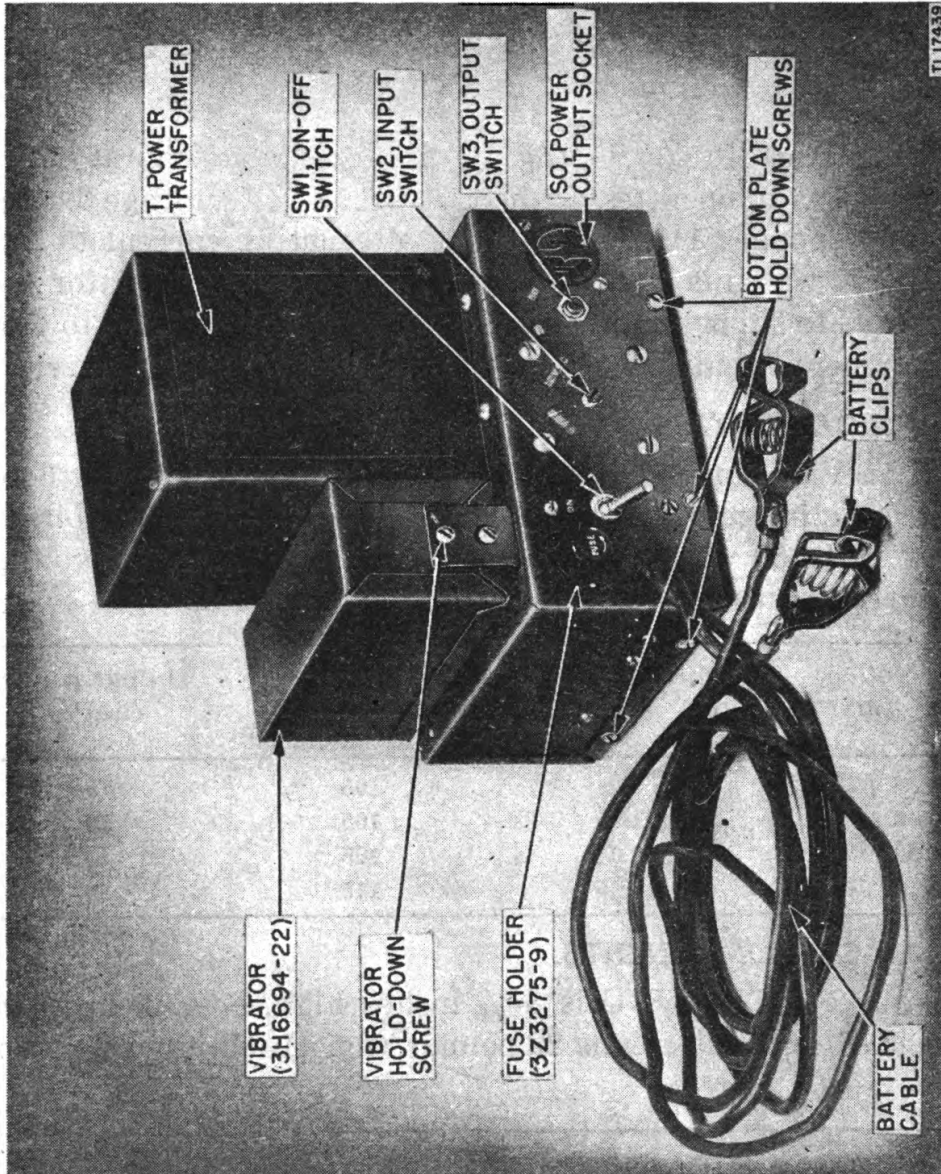

Figure 2. Vibrator Pack PP-68/U, top cover removed.
**a. Chassis Assembly.** The chassis assembly consists of a steel-formed housing. Mounted on top of the housing (fig. 2) are the output transformer T, the vibrator unit, and a six-prong socket for the vibrator unit. The vibrator unit is encased in a metal box which plugs into the socket and is held in place by two screws
#### 8. CONTROLS AND THEIR USE (fig. 2).